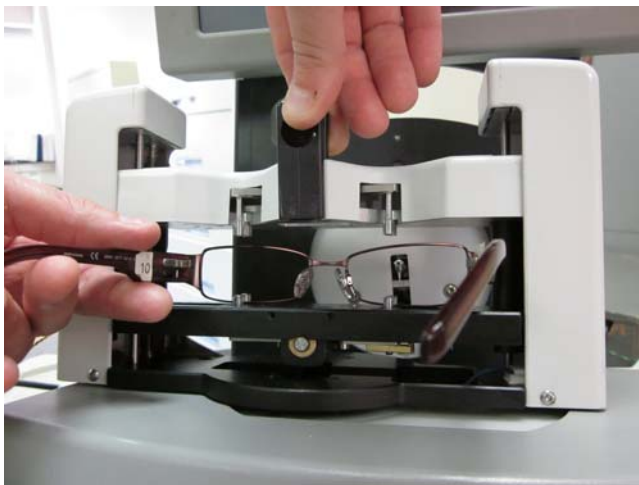

Figure 3.1a: Loading a frame.
2. Hold the frame to be mounted by the temples, as shown below in Figure 3.1a. Place the lower eye wire of the frame between the lower pinch pins.